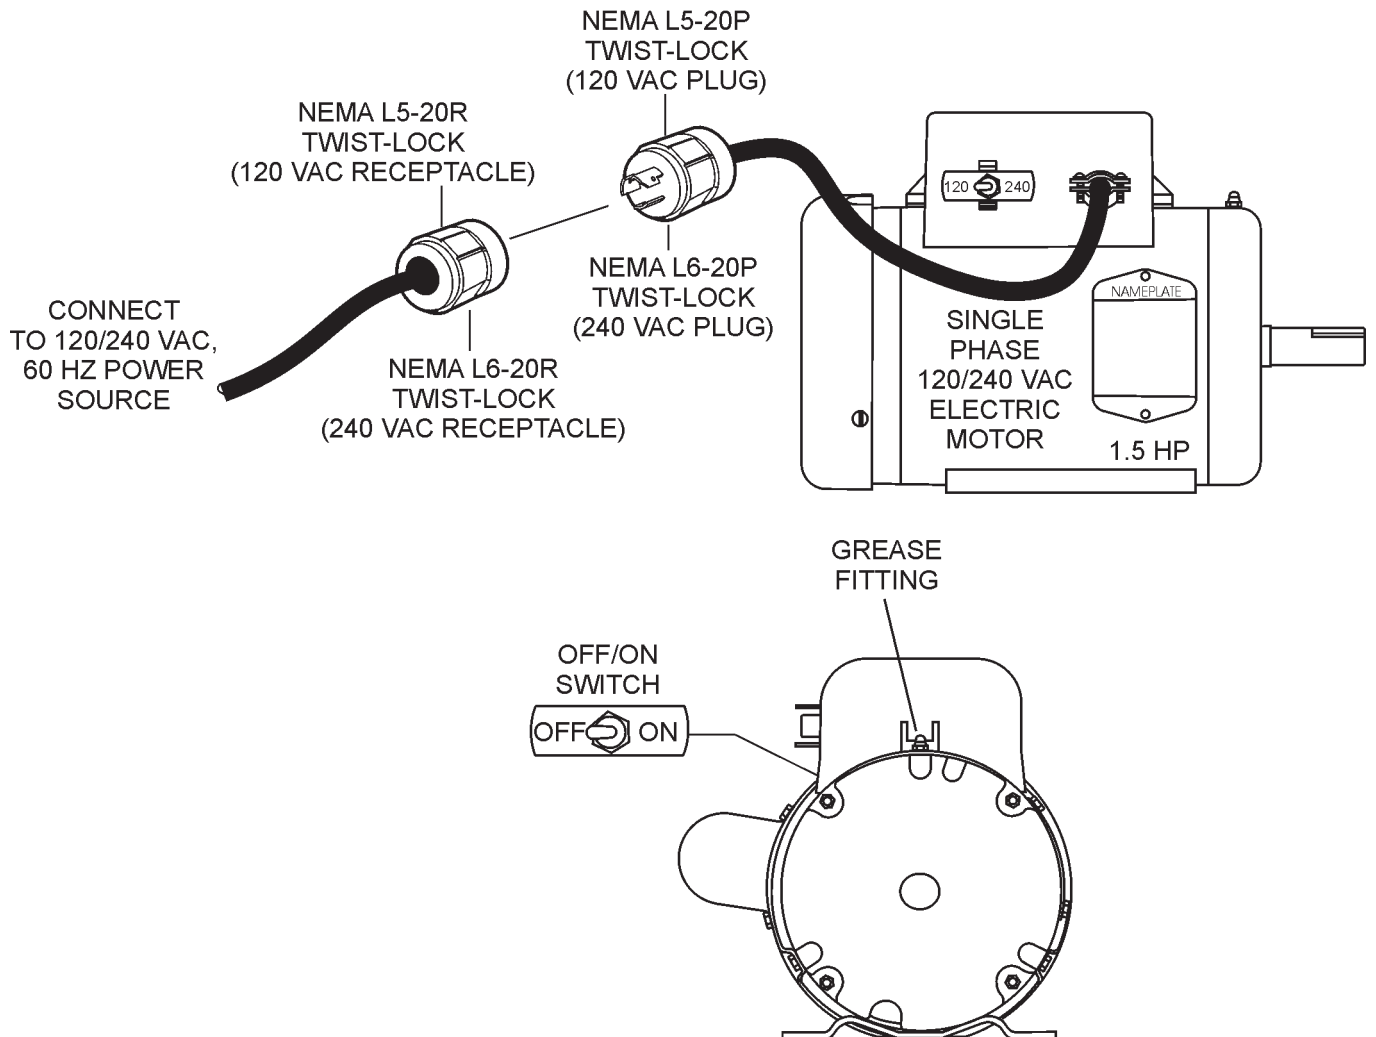

Figure 6. Electric Motor
A 12-inch electrical cable (Figure 6) is provided with the electrical motor for hookup to a power source.
4. **Important!**, when changing the input voltage to the electric motor from 120 to 240 VAC, the plug on the electric motor power cord must also be changed. See Table 6 and Figure 6.